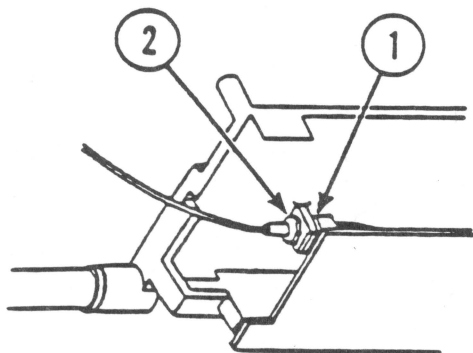

FIGURE 10
19. Using an adjustable wrench, hold the nut on the right side of the carrier wire in place. (See Figure 10, #1.) Using a needlenose pliers, remove the wire nut on the left side of the carrier wire. (See Figure 10, #2.)